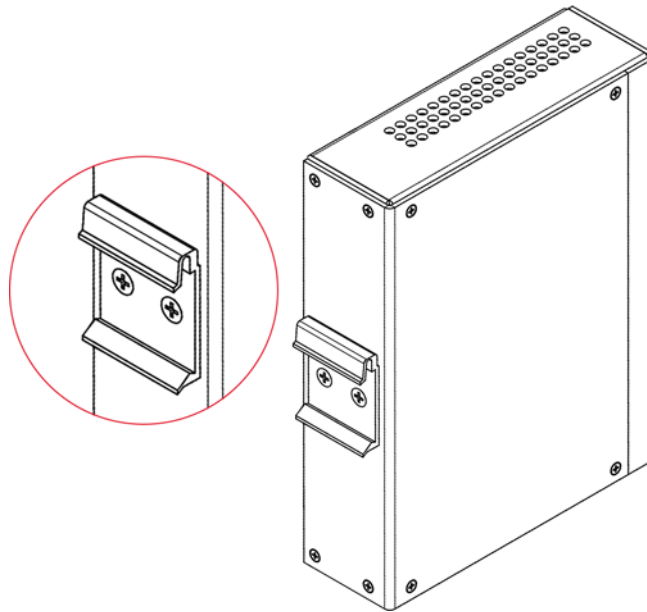

Figure 27. Mounting clip oriented for installation on DIN rail
1. Rotate the SmartNode device so the clip is oriented as shown in figure 27 on page 72.